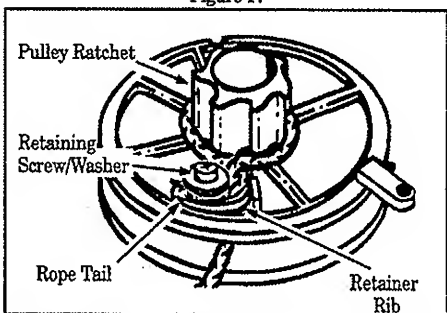

Figure 18
12. Wrap rope counterclockwise around the pulley ratchet and tuck the loose end back under the rope, leaving about a 1 inch (25 mm) tail next to the retainer rib. Figure 18.
**NOTE:** In step 13, do not overtighten the retainer screw. Over tightening the screw can cause the screw post to strip out. Tighten the screw until the bottom of the washer *either* (1) is snug against the rope *or* (2) contacts the top of the screw post.
13. Install and tighten the retainer screw and washer. Figure 18.